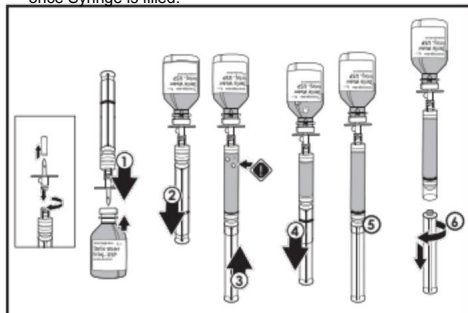

Figure 4. Filling the syringe.
4. Invert Sterile Water Vial and slowly pull back plunger shaft to fill Syringe (Figure 4). Remove plunger shaft once Syringe is filled.